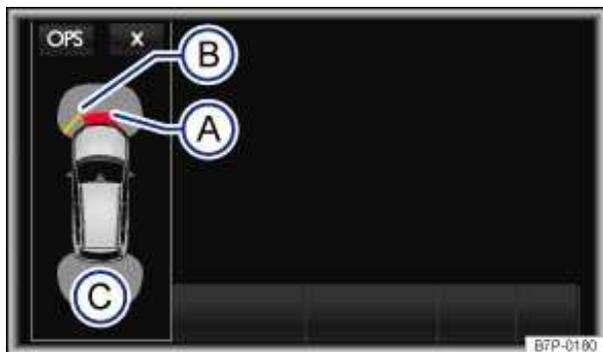
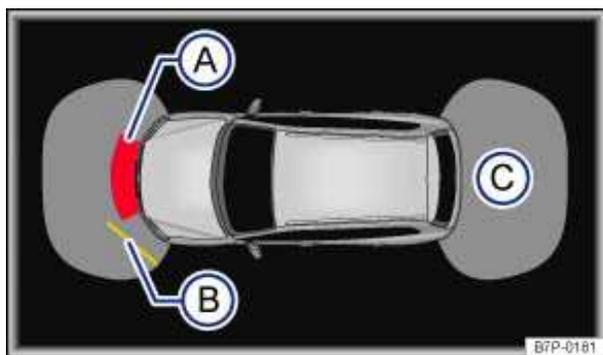

Fig. 262 OPS screen display: Small-screen display.
Fig. 263 OPS screen display: Full-screen display.
Manual deactivation of OPS small-screen display:	Tap the ✕ function key ⇒ fig. 262 .
In front of the vehicle, the area in which obstacles are detected extends about 48 inches (120 cm) straight ahead and up to 24 inches (60 cm) to either side. *Behind* the vehicle, the area scanned area extends about 5 ft. 4 inches (160 cm) to the rear and about 2 ft. (60 cm) to either side (C) and ⇒ fig. 263 \(C\).
The display shows the scanned area in several segments. The closer the vehicle gets to the obstacle, the closer the segment advances to the displayed vehicle ⇒ fig. 262 \(B\) and ⇒ fig. 263 \(B\).